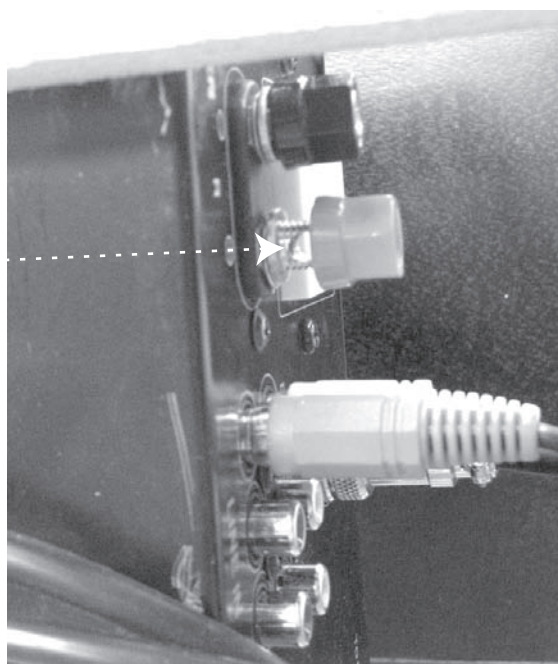

Fig. 12
12. On the amp, unscrew the red plug that does not already have a speaker wire attached until you see the hole on the post. See Figure 12. Insert the red-tipped speaker wire that is connected to the left speaker into the hole in the red post and tighten the cap until the wire end is covered. Do not over-tighten. Repeat for the black post/wire. See Figure 12.